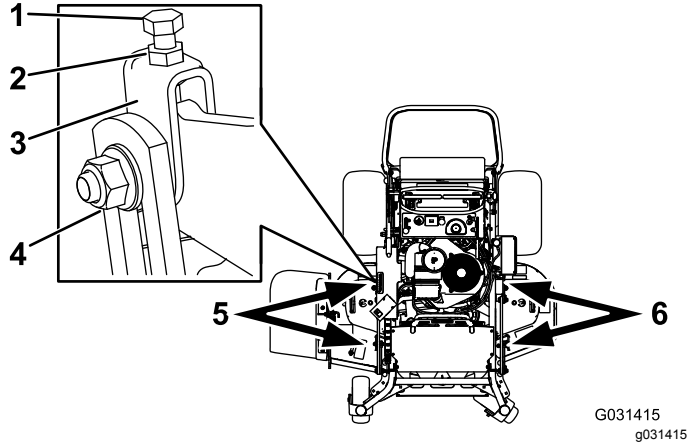

Figure 81
1. Loosen the side nut and jam nut in the yokes you want to adjust (Figure 81).
2. Rotate the top bolt of the yokes to adjust the height of the mower deck (Figure 81).